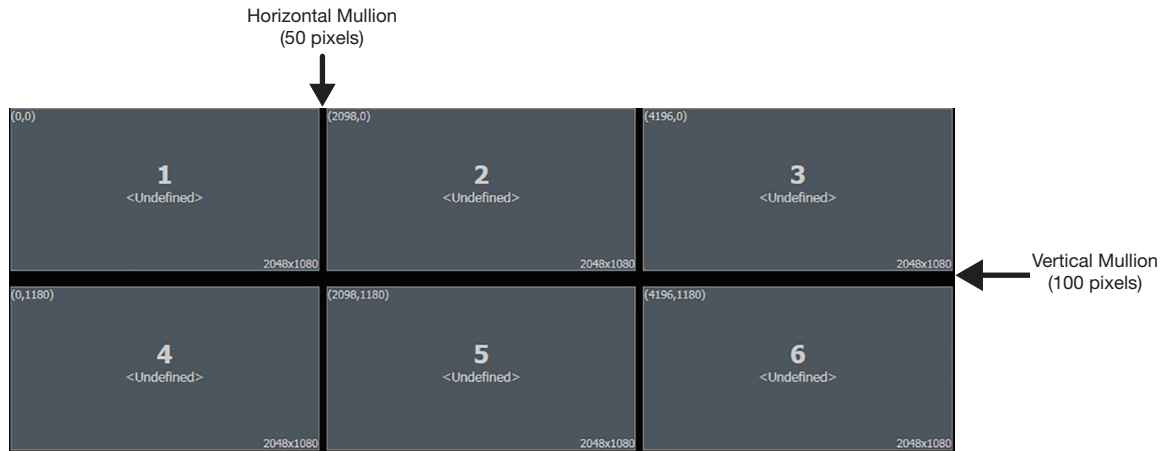

Figure 37. Example of Mullion Compensation Settings on a Canvas
- **Mullion compensation** — Mullion is the area of frame border that exists around each display. When designing the videowall, you must take this area into account so that, when an image is spread across two or more displays, the image flow is not distorted. The VCS enables you to adjust the space around each display to compensate for the mullion (see figure 37 on the next page for an example).